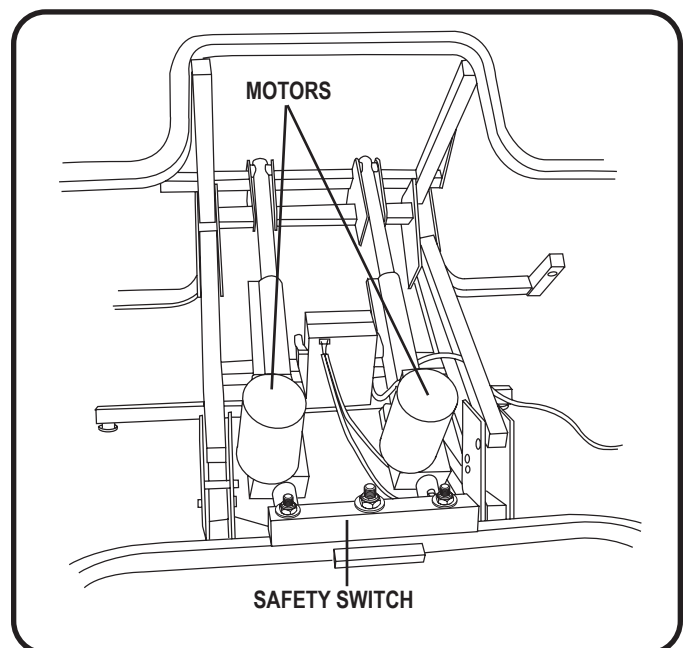

Figure 5.3 In-sync Motors (Timing Corrected)
3. Press the hand control in the UP position until your chair reaches the full lift position. This will reset the motor position and correct the timing (**Fig. 5.3**).